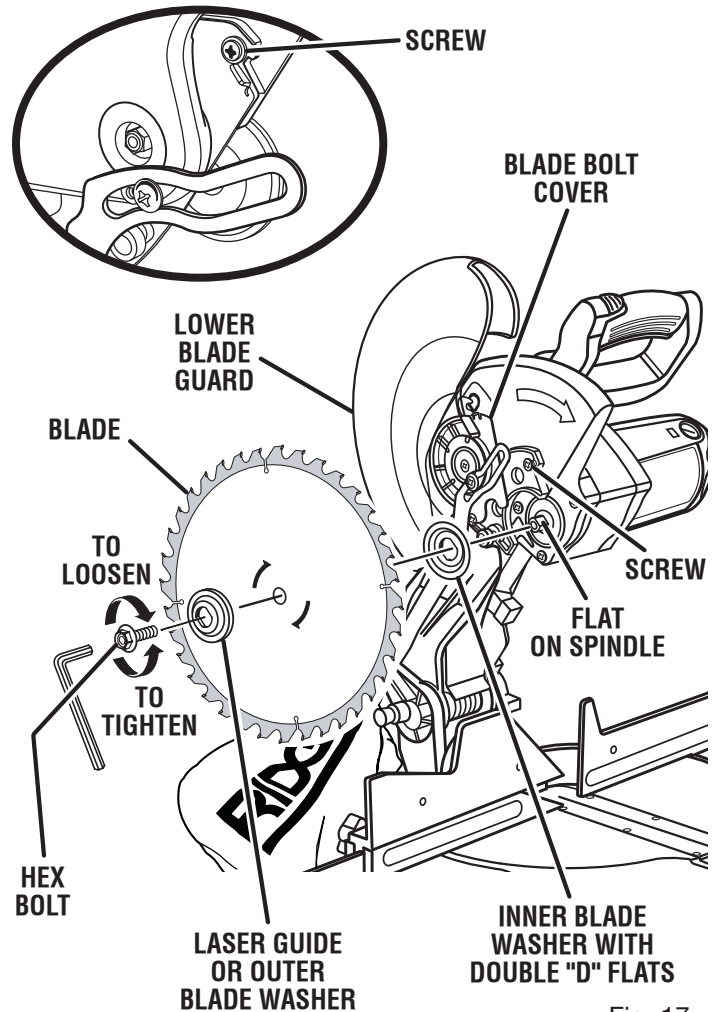

Fig. 17
See Figure 17.
- Fit saw blade inside lower blade guard and onto spindle. The blade teeth point downward at the front of saw as shown in figure 17.